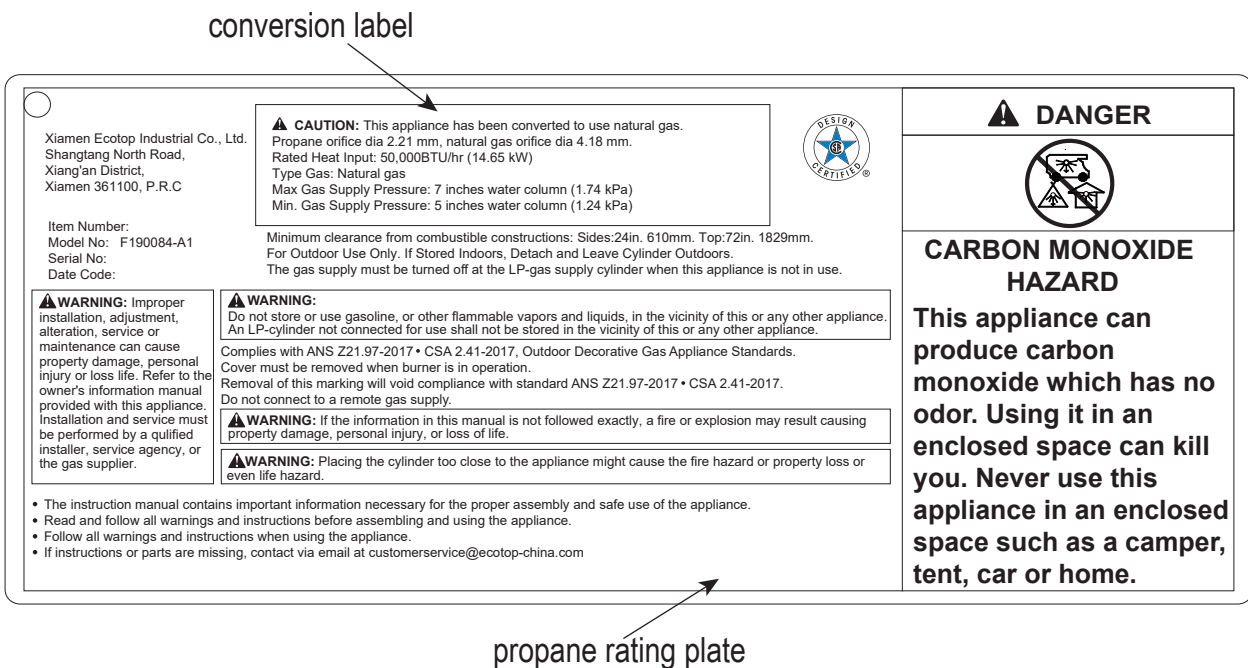

Figure 13
- Stick and cover the conversion label onto the propane rating plate (See Figure 13).